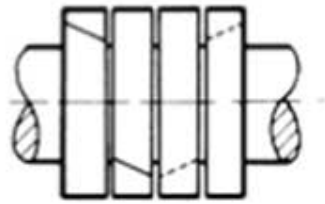

Figure 48: Location of the packing to each other
9. Stagger the ends of packing rings at opposite positions, see Figure 48 on page 69.